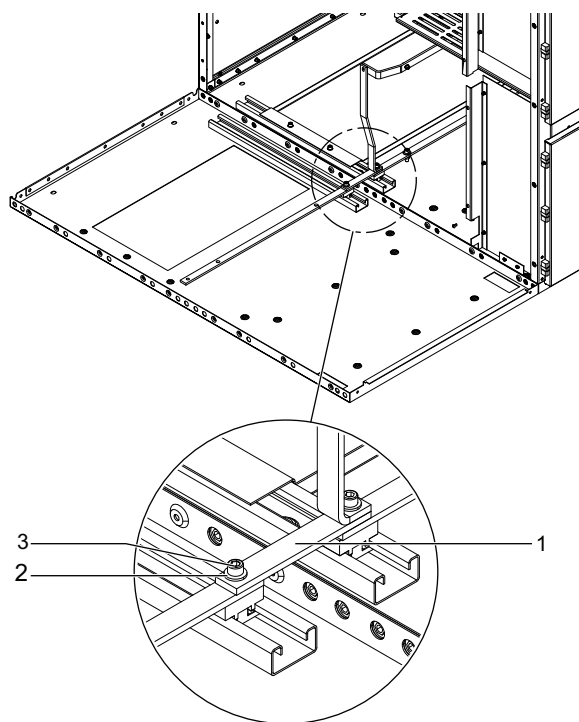

Figure 27
- The connection is located at the base of the cubicle (Figure 27).
1. Install the connecting bar (1) by sliding it from one cubicle to the adjacent cubicle (Figure 27).
2. Insert the screw (3) with washer (2) and tighten it with the torque of 35 N•m.